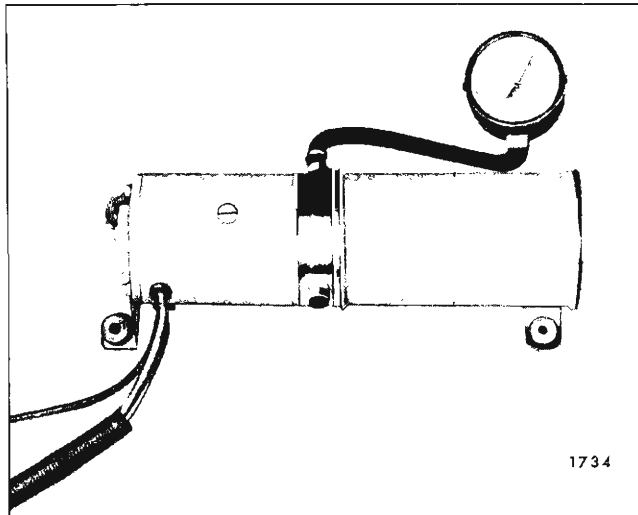

Fig. 2-I-67—Checking Pump Pressure
b. Install plug in one port, and pressure gauge in port to be checked. See Fig. 2I67.